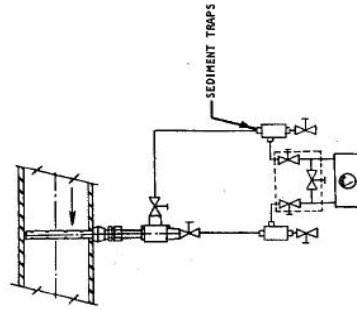

FIGURE 1.6 GAS
- 1.2.2.2 For installations where condensation or entrained liquids accumulate in the instrument piping, it is recommended that the instrument be mounted above the Accutube or install the Accutube in the top portion of the line. If mounting the instrument below the Accutube is necessary, then sediment traps and/or drain valves should be used as in Figure 1.6.